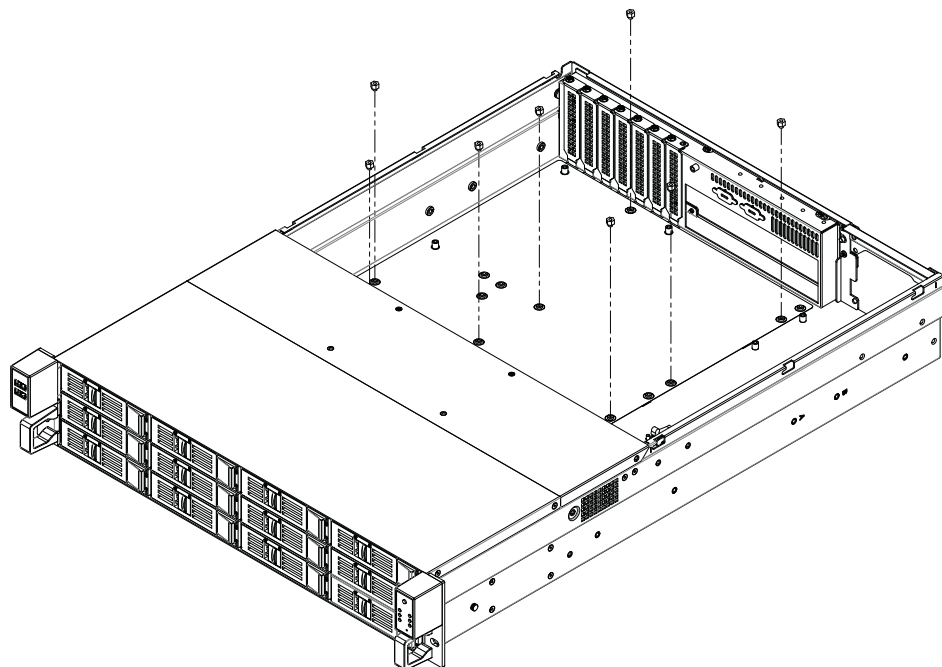

Figure 2.3 Fastening the copper stub/ 固定铜柱 / 固定銅柱
1. Located inside the rear top cover of the HPC-8212SE SKU is a yellow label (see Figure 2.2). This label shows the plastic posts where a copper stub should be attached to install an EATX/ATX/micro ATX motherboard. The copper stub is provided in the accessory box (see Figure 2.3). Affix the copper stub in the correct location and then rotate it counterclockwise to fasten it to the chassis.